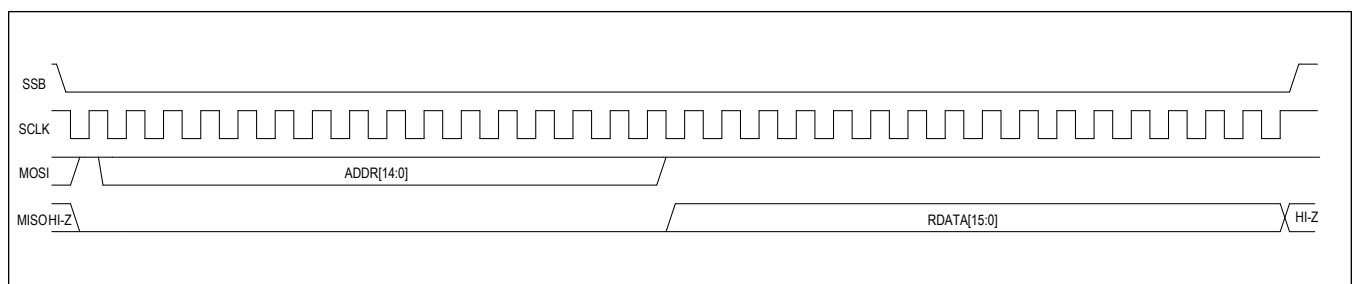

Figure 8. SPI Read Frame
As shown in Figure 8, the SPI Write Frame is 32-bits long. It involves a write bit (1), followed by a 15-bit register address. The IC responds with 16-bits of data on the MISO line.